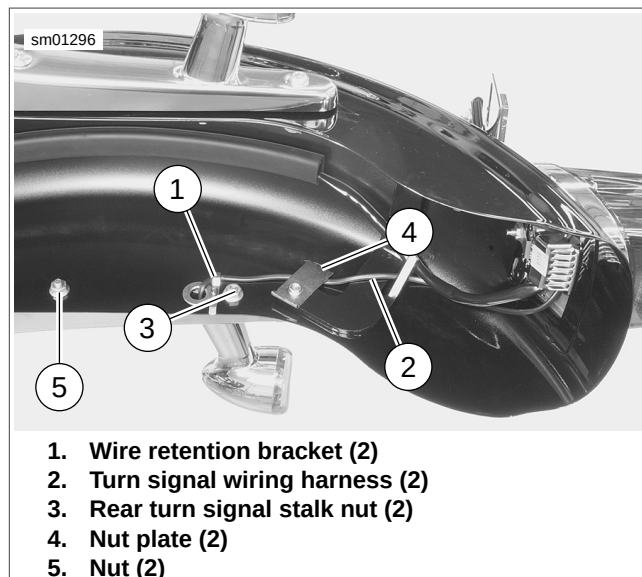

Figure 6-72. Turn Signal Wire Routing: All Models Except XL 1200N and XR 1200
3. **All but XR 1200:** see Figure 6-72. Disengage turn signal wiring harnesses from wire retention brackets (1).
1. **All but XR 1200:** See Figure 6-72. Engage turn signal wiring harness (2) in wire retention bracket (1) on each side of rear fender.